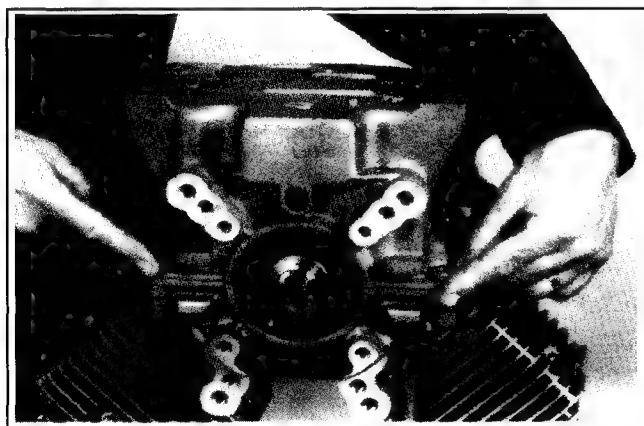

Figure 9-43. Location of the Splitting Tabs.
3. Pry between lifting tabs to separate the crankcase halves. See Figures 9-43 and 9-44.